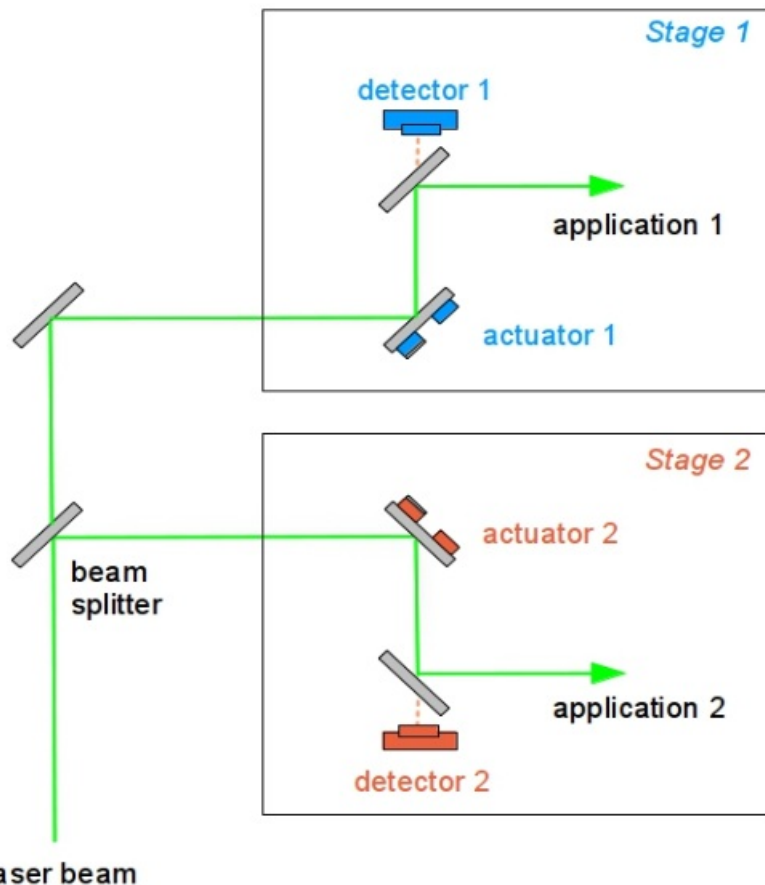

Figure 13: Set-up of a 4-axes system used as two 2-axes systems. With this set-up the position of two independent lasers can be stabilised with one controller.
- Figure 13 finally shows an arrangement where the 4-axes system is used as two 2-axes systems, i.e. the two stages of the controller are used to separately stabilise two independent beam lines.